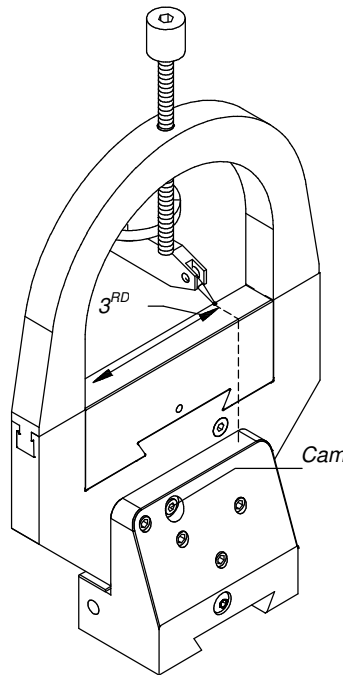

Figure 8
STEP 8. (A). For truing the second-axis place the indicator ball back at the starting corner. **(B).** Zero out the indicator. **(C).** Move the indicator ball out 3/4 inch in the second-axis direction. **(D).** Turn #2 jack screw until the indicator returns to zero and continue past in the negative direction the same amount as the reading was. The second-axis is trued.
STEP 10. Place it upright on the surface plate as shown in Fig. 8.
STEP 11. TRUING THE INSERT THIRD-AXIS (A). Place the RH01/TD01 on the surface plate as shown in Fig. 8. **(B).** Place the indicator ball directly above the pivot ball of the TD01 on the insert as shown in Fig. 8. **(C).** Zero the indicator. **(D).** Move the indicator to the other end of the third-axis on the insert. **(E).** Turn the cam until the indicator returns to zero. The third-axis is trued.